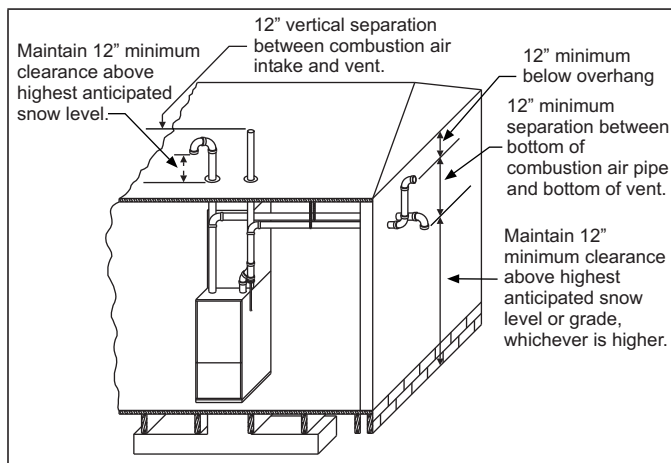
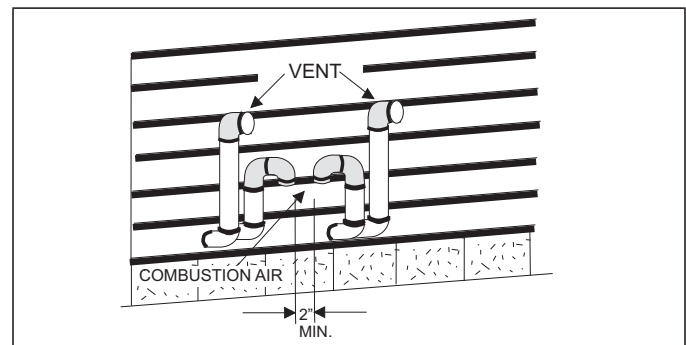

FIGURE 24: Termination Configuration - 2 Pipe
FIGURE 26: Double Horizontal Combustion Air Intake and Vent Termination
7. Direct vent systems must be installed so the vent and the combustion air pipes terminate in the same atmospheric zone. Refer to Figures 24 or 25.
The combustion air side of the two-pipe configuration shown in Figures 24 and 25 can be installed so the combustion air pipe terminates as described in outdoor combustion air or ventilated combustion air sections in these instructions. Follow the instructions for outdoor combustion air or ventilated combustion air and the instructions for installing the vent system with the vent terminating as shown in Figures 26 or 27. The two-pipe system must have a separate combustion air pipe and a separate vent pipe for each furnace. Under NO circumstances can the two combustion air or vent pipes be tied together. The combustion air and vent pipes must terminate in the same atmospheric zone.